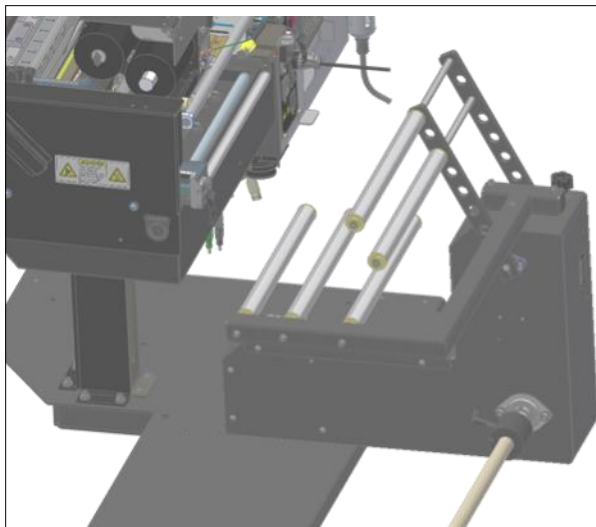

Figure 32B. Roll Removed
2. Remove outside Core Chuck and slide empty roll from shaft. **Figure. 32B.**